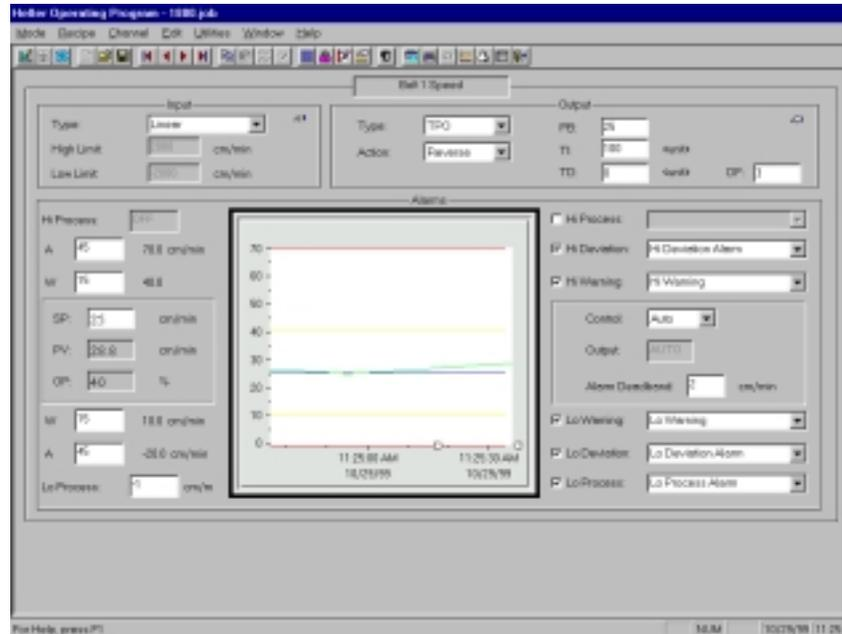

Figure 15
2. Choose Channel Setup from the Window menu and select the Belt 1 Speed Channel. Verify that the Control for this channel is set to AUTO mode and Output % is not 0. (**See Figure 15**).